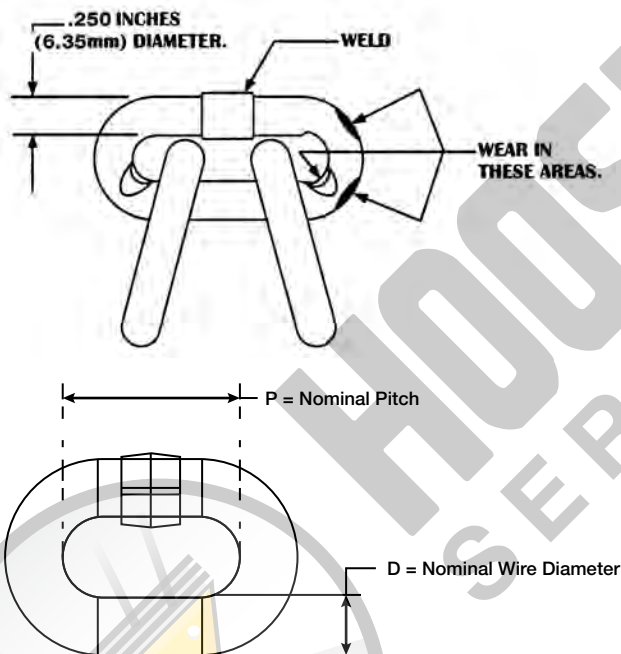

Figure 11. Chain Wear Areas
3. Slack the portion of the chain that normally passes over the liftwheel (sprocket) or idler sprocket on multi-reeved hoist. Examine the chain links for wear (see figure 11). If the wire diameter anywhere on the link measures less than 90% of the nominal wire diameter, the chain must be replaced.